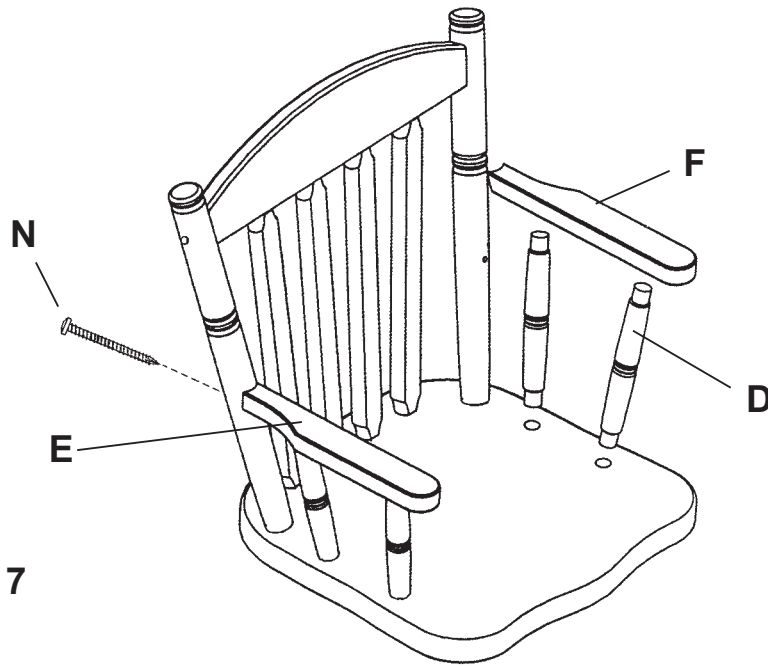

Fig. 7
7. Spread glue evenly in the four arm spindle holes in the seat. Put the Arm Spindles (D) in the holes making sure that the shoulders are in contact with the seat. Spread glue lightly in the holes in the Left and Right Arms (E&F), then work the arms onto the spindles. Both arms should be snug against the backposts. Be careful not to scratch the backpost with the arms while doing this.
Insert #8 x 2-1/4" Brass Pan Head Screws (N) through the holes in the backposts into the arms and tighten firmly. See Figure 7.